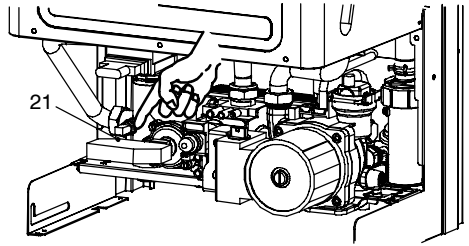

Fig. 8.2
- 9 Disconnect the C.h. temperature probe NTC 21 in Fig. 8.2
- 11 Connect the C.h. temperature probe NTC 21 in Fig. 8.2